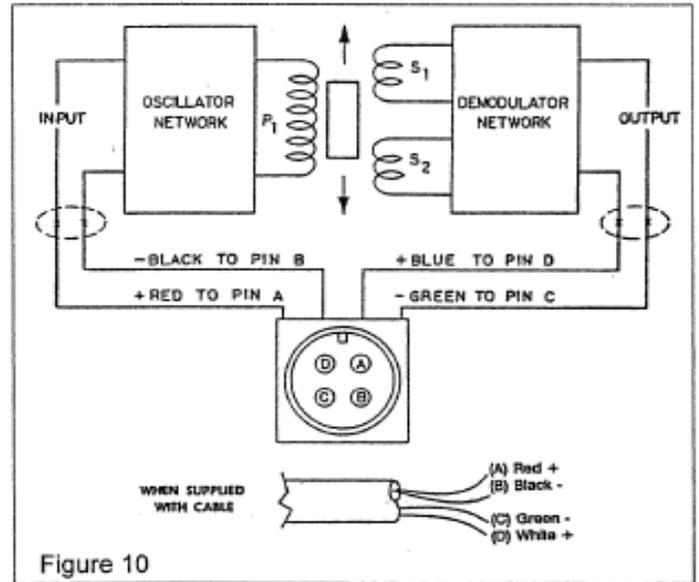

Figure 10
3. Observing correct polarity, connect the positive (+) input lead to Pin A and the negative (-) input lead to Pin B. (See Figure 10)
4. Connect the positive (+) output lead to Pin D and the negative (-) output lead to Pin C. (See Figure 10.)
2. Connect a voltmeter to Pins C and D (See Figure 10)